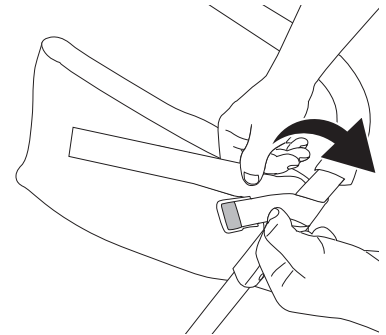
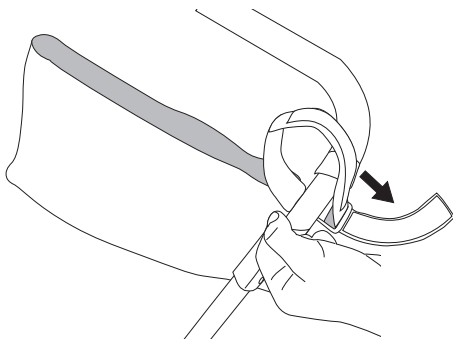
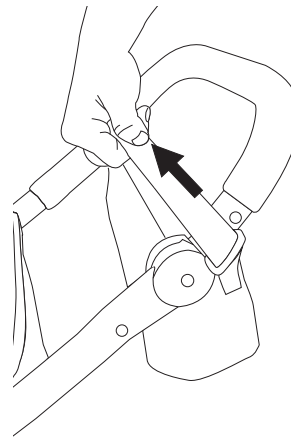
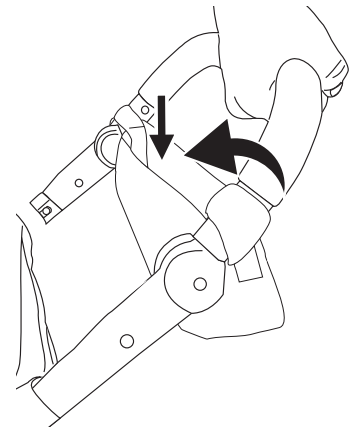

Fig. 3
Fig. 3A
Fig. 3B
Fig. 3C
7. To attach parent fabric organizer take velcro strap: A) Wrap velcro strap around top of jogger handle (Fig. 3). B) Thread velcro strap through plastic buckle from the top down and through (Fig 3A) C) Pull strap tight (Fig. 3B). D) Wrap velcro strap around top of handle. Inside the organizer is a velcro strip, attach velcro strap to strip inside organizer. (Fig. 3C). Repeat on opposite side.